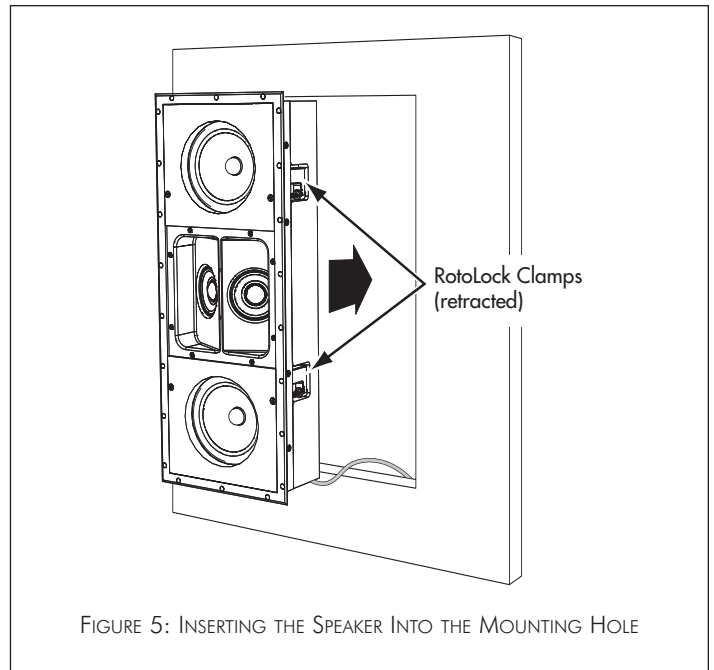

FIGURE 5: INSERTING THE SPEAKER INTO THE MOUNTING HOLE
3. Make sure all the RotoLock clamps are fully retracted into their recesses in the speaker box. Insert the speaker into the hole in the wall (see Figure 5, next column). The RotoLock system can accommodate a maximum wall material thickness of 1 1/4".